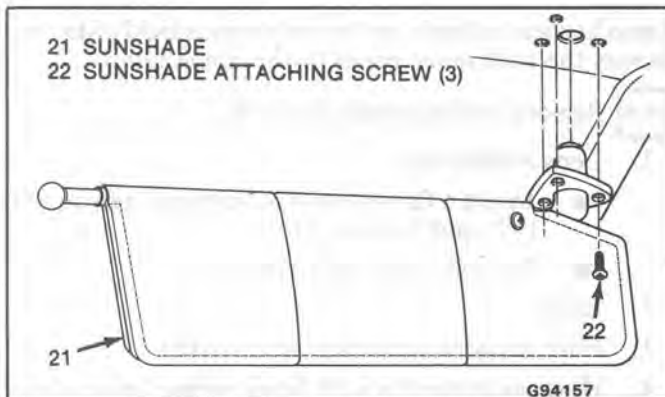

Fig. 7-Sunshade Assembly
The sunshade assemblies are attached to the roof panel with three attaching screws (Fig. 7). To remove or install the sunshades (21), remove or install the three attaching screws (22).